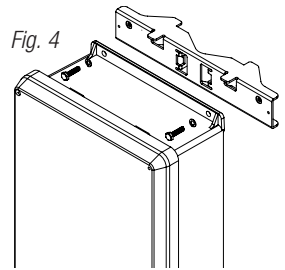

Fig. 4
3. Attach the bottom bracket to the enclosure by inserting bolts through the flange of the enclosure and into the bracket, tightening bolts with a 7/16" hex socket (Fig. 4).